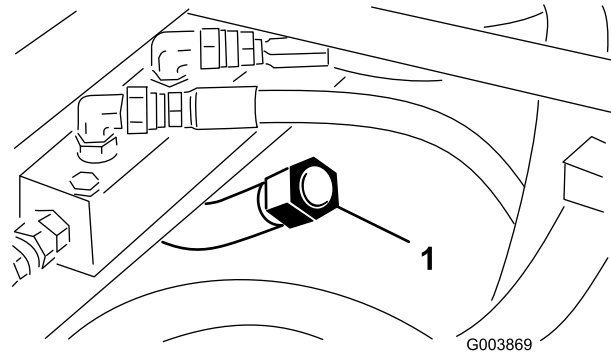

Figure 27
3. Unscrew the dipstick cap from the transmission filler neck (Figure 27) and wipe it with a clean rag.